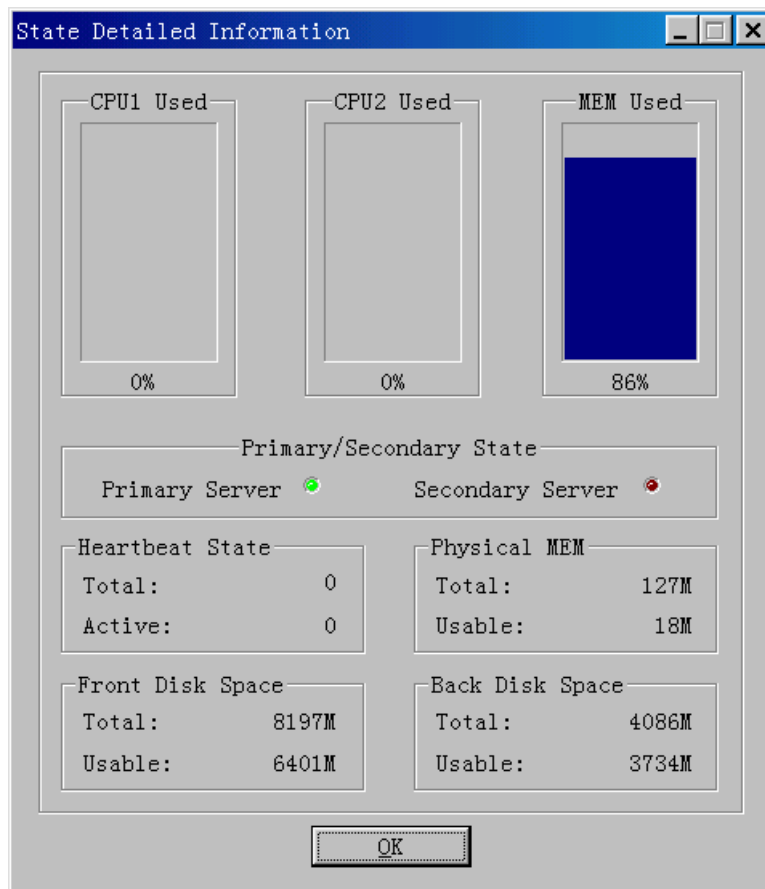

Figure 3-16 [State Detailed Information] window
- 2) Double-click any entry. The system opens a window, dynamically displaying the information of all the items. See Figure 3-16.